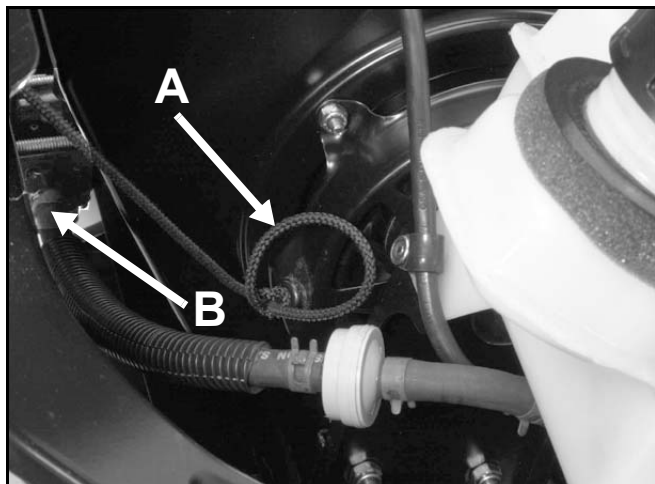

Figure 16 3428-0222
1. Remove fuel from the tank. Remove the chute and upper shroud; refer to "Upper Shroud Removal" on page 2 - 3. Tie a slip knot in the starter rope where it comes out of the recoil (Figure 16).
4. Temporarily clamp the fuel line and slip it off the carburetor fitting. Be prepared with something to catch any fuel remaining in the line or filter (Figure 16).